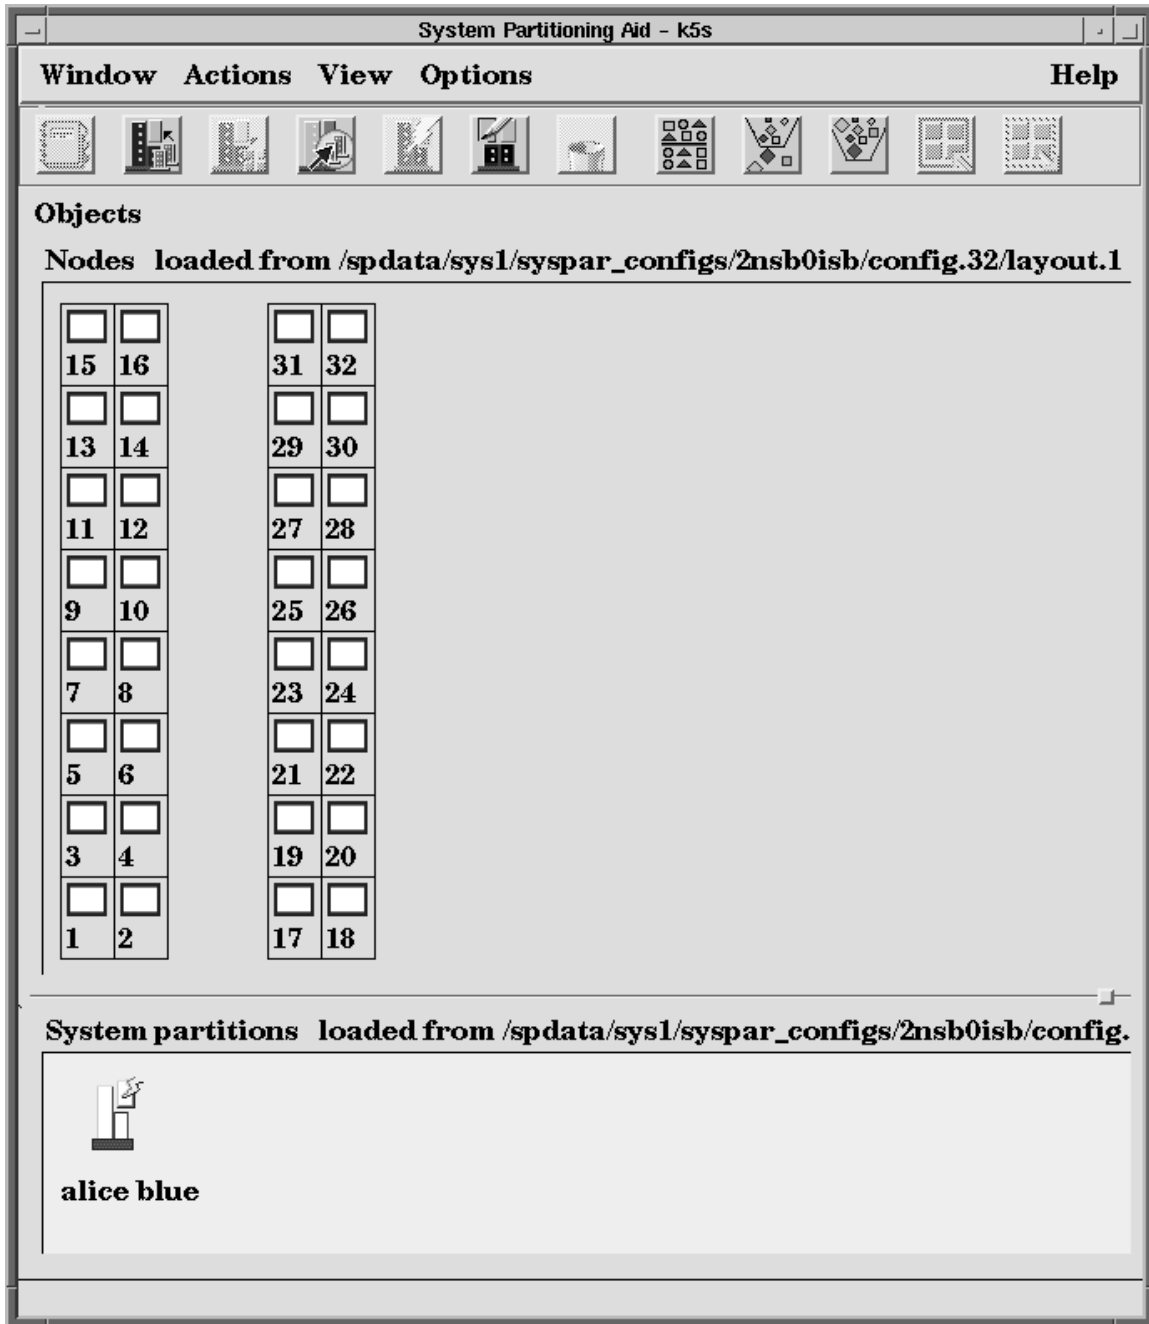
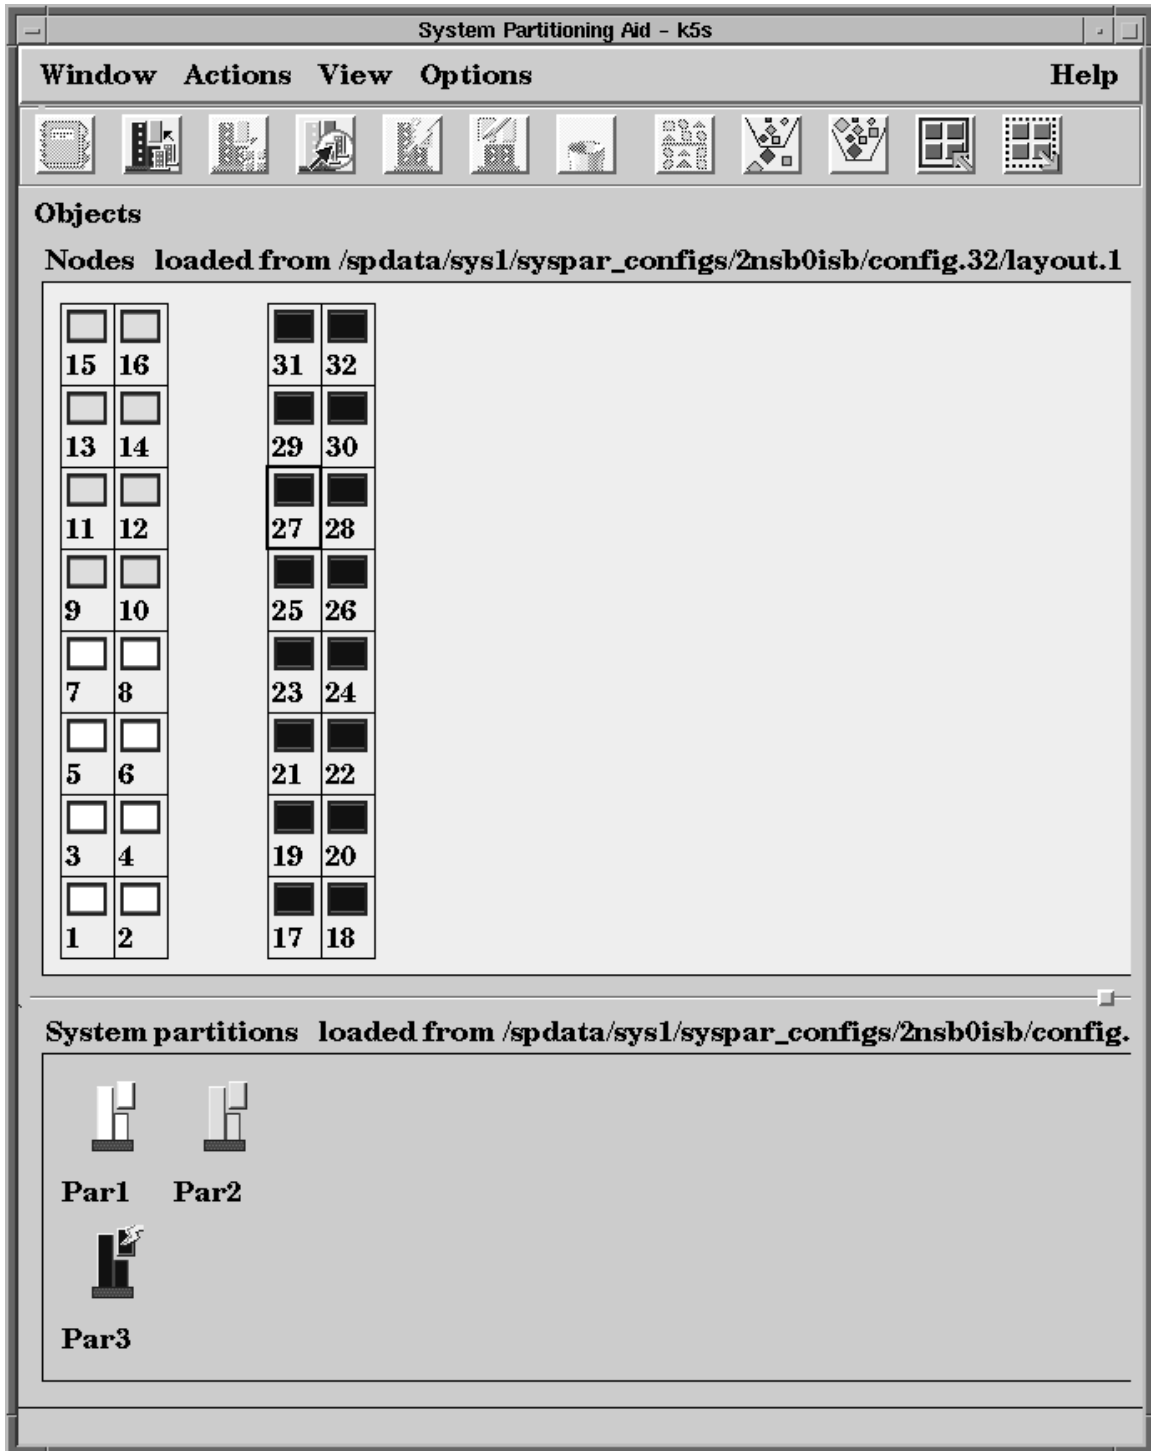

Figure 45. Main Window for Example 3 of Chapter 5
Figure 46. System Partitioning for Example 3 of Chapter 5
3. Select the "2 16 port switches" and select the "32" configuration. You find there is only one such layout. Select this layout and open it. You now have a 2-frame, 32-node system as shown in Figure 45 on page 215. The system partition name "alice blue" is a default choice, which matches the default color chosen by the tool.
Your objective for system partitions is to divide the system pictured in Figure 45 into 3 pieces: the lower half of Frame 1, the upper half of Frame 1, and Frame 2. You may perform the following tasks to accomplish this, and arrive at Figure 46 on page 217: